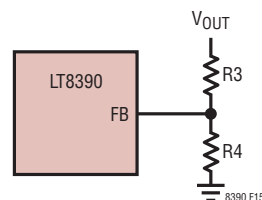

Figure 15. Feedback Resistor Connection
The LT8390 has a voltage feedback pin FB that can be used to program a constant-voltage output. The output voltage can be set by selecting the values of R3 and R4 (Figure 15) according to the following equation:
- Place C_{IN} , switch A, switch B and D_B in one compact area. Place C_{OUT} , switch C, switch D and D_D in one compact area. One layout example is shown in Figure 15.